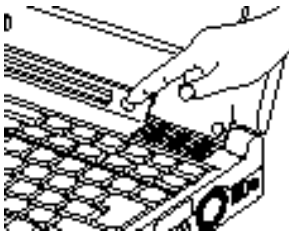

Figure 2-14 Suspend/Resume Button
If your notebook is suspended, pushing the Suspend/Resume button will return your notebook to active operation at the point it went into suspension. The Suspend/Resume button is located next to the Status Indicator panel above the keyboard of your notebook. (Figure 2-14.) You can tell whether or not your system is in Suspend mode by looking at the Power indicator. (See page 19.) If it is visible and not flashing, your notebook is fully operational. If it is visible and flashing, your notebook is in Suspend mode. If it is not visible, the power is Off, the power is in the Windows 95 pseudo-off state, or your notebook is in Save-to-Disk mode. When you receive your LifeBook 900 Series it will be set to the default which is Suspend mode.
**back on and lets you begin where you left off.** (See *Figure 2-14 on page 40, and Suspend Mode on pages 44 and 85.*)
**Clicking on the Save-to-Disk button or selecting System Save to Disk on the PowerPanel menu will put your notebook in Save-to-Disk mode. Your notebook will be left in the Windows 95 pseudo-off state. If the power switch is not turned off your notebook can be restarted by pressing the Suspend/Resume button which will cause the system memory to reload from the hard drive and let you begin where you left off.** (See *Figure 2-14 on page 40, and Save-to-Disk Mode on page 44.*)